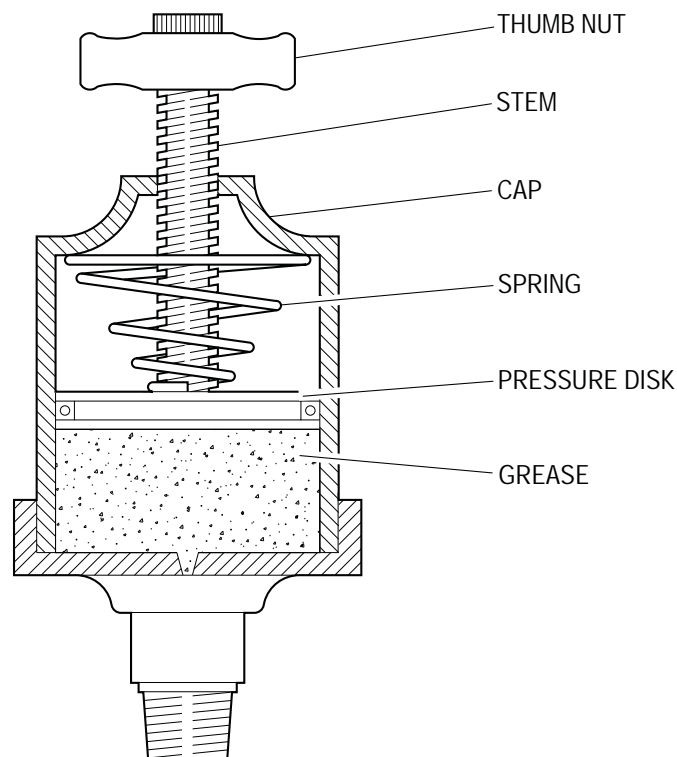

Figure 1 – Automatic Pressure Lubricator Components
- B. Check automatic pressure lubricator at slurry pump. If the stem is fully extended, with thumb nut all the way up, the automatic pressure lubricator contains lubricant. If not, lubricant must be replaced by the following procedure (See Figure 1):